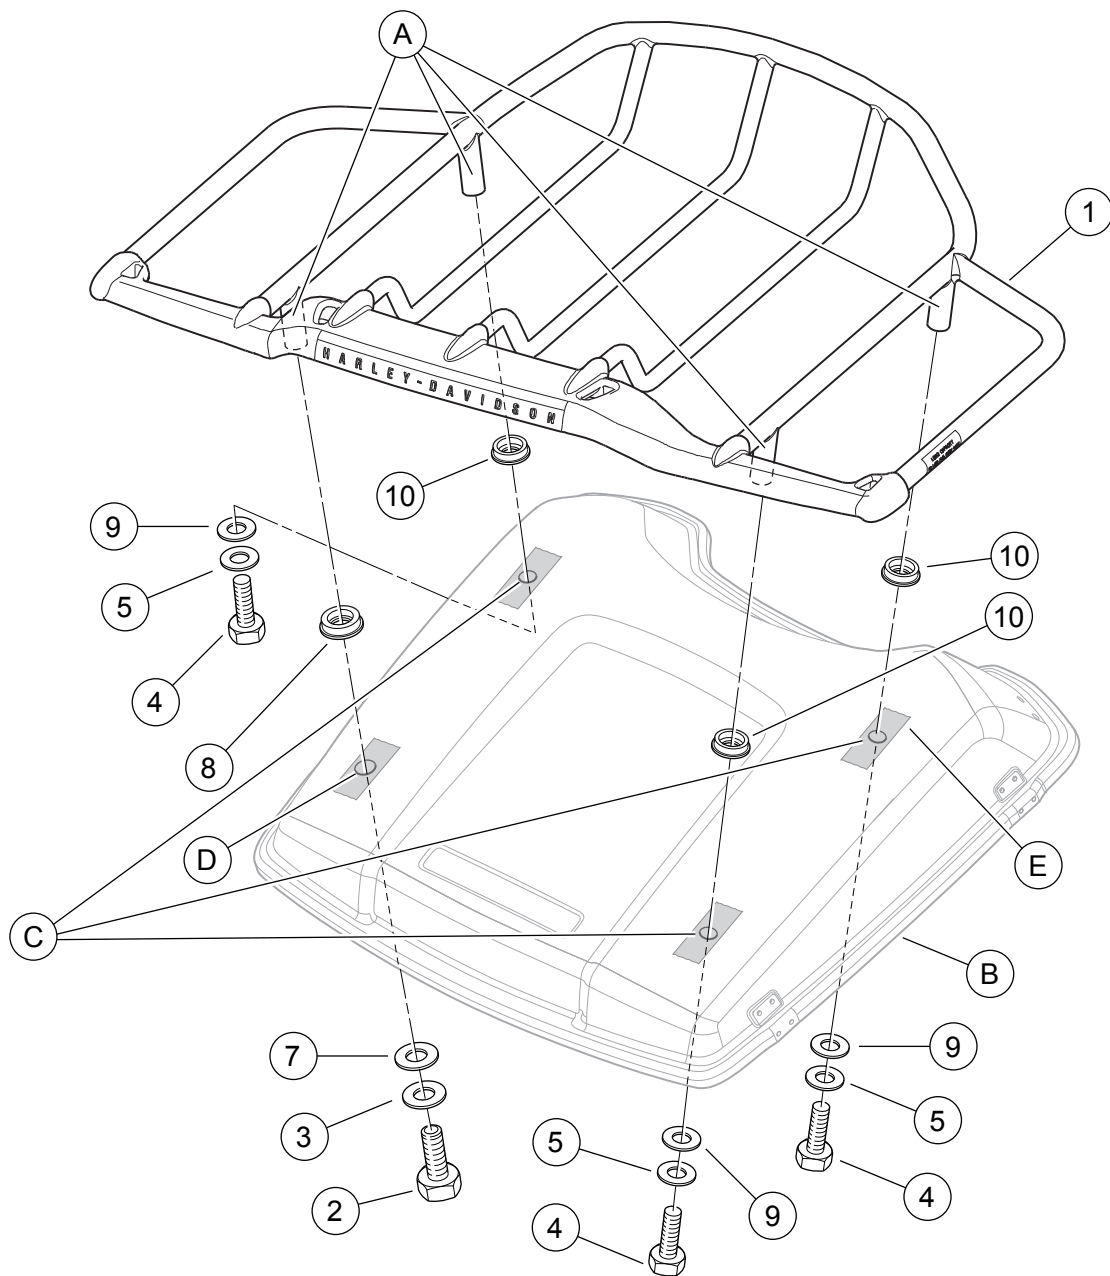

Figure 1. Service Parts, Air Wing Tour-Pak Lid Rack
See Figure 1 and Table 1.
2. See Figure 1. Slip the **larger diameter** mounting pad (8) onto the left-rear leg. Slip the three **smaller diameter** mounting pads (10) onto each of the remaining mounting legs (A). With the Harley-Davidson name to the rear, position the rack on the Tour-Pak lid in the desired location.